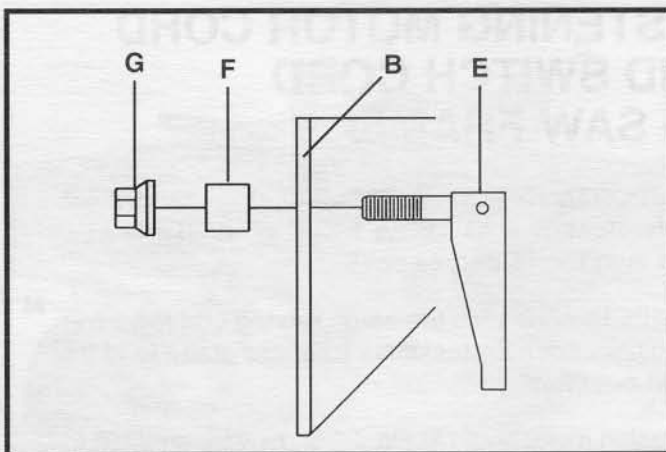

Fig. 33
3. Insert locking lever (E) Fig. 33, through the hole in left edge of motor cover (B). Assemble spacer (F) over threads of lever (E), and fasten lever to motor cover with lock nut (G).